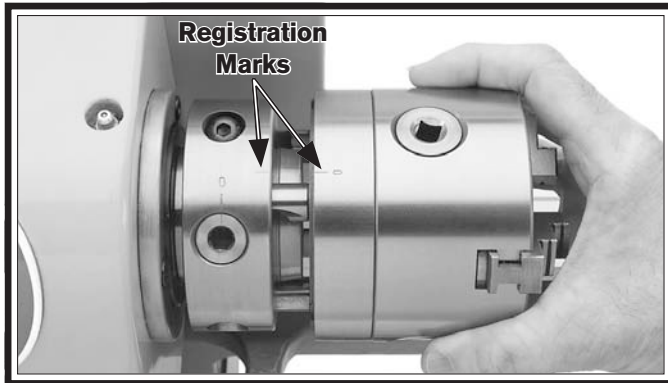

Figure 19. Chuck and spindle registration marks.
- Align the registration mark on the chuck (see **Figure 19**) with the one on the spindle.